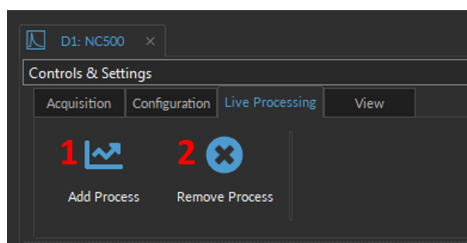

Figure 16.65: Live Processing Tab
1. The **Add Process** button (Fig. 16.65, 1) creates preset configurations where a live computation (such as filter, decimation, and/or demodulation) is applied in real-time as the data is collected. Some preset options create both input and output channels required for the process (e.g. **Lock-In**, **Interleaved**, and **Ephys**). Each preset configuration is treated in separate sections, as in Table 16.3.
2. The **Remove Process** button (Fig. 16.65, 2) deletes the selected preset. Only one preset option (and all its dependencies) can be deleted at a time. This option is permanent and cannot be recovered unless the settings were already saved using the **Save Configuration** button (Fig. 16.23, 4).